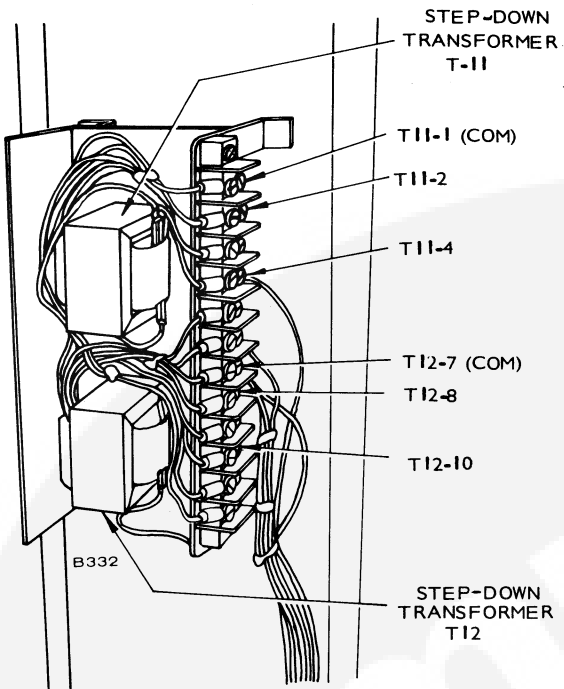

FIGURE 1. TRANSFORMERS T11 and T12 ON METER-LAMP PANEL
10. If the meter-lamp panel is three-phase only, remove the panel as described under *Changing Meter-Lamp Panel*. If the meter-lamp panel is a single- or single- and three-phase panel, rewire the connections on transformers T11 and T12 (if equipped). See Figure 1.